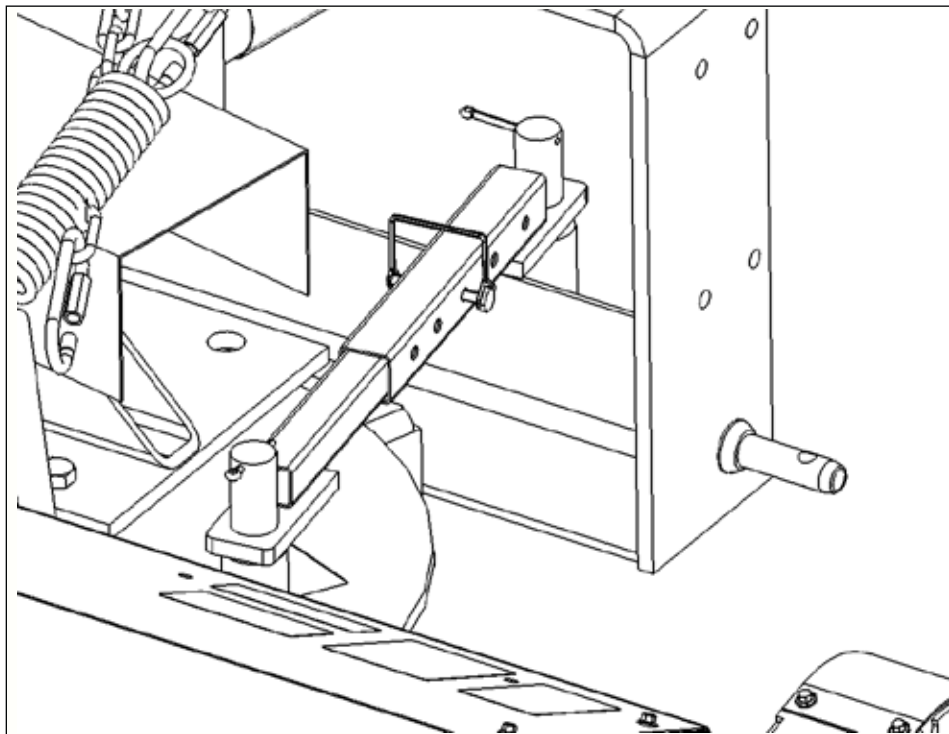

figure 5
- b. Place tubes on large pins welded to the mounting assembly (figure 5). The tube with one hole goes on the half-moon swing plate.
- c. Secure with 2 cotter pins (figure 5).
- e. Insert a lock pin in the aligned holes (figure 5).